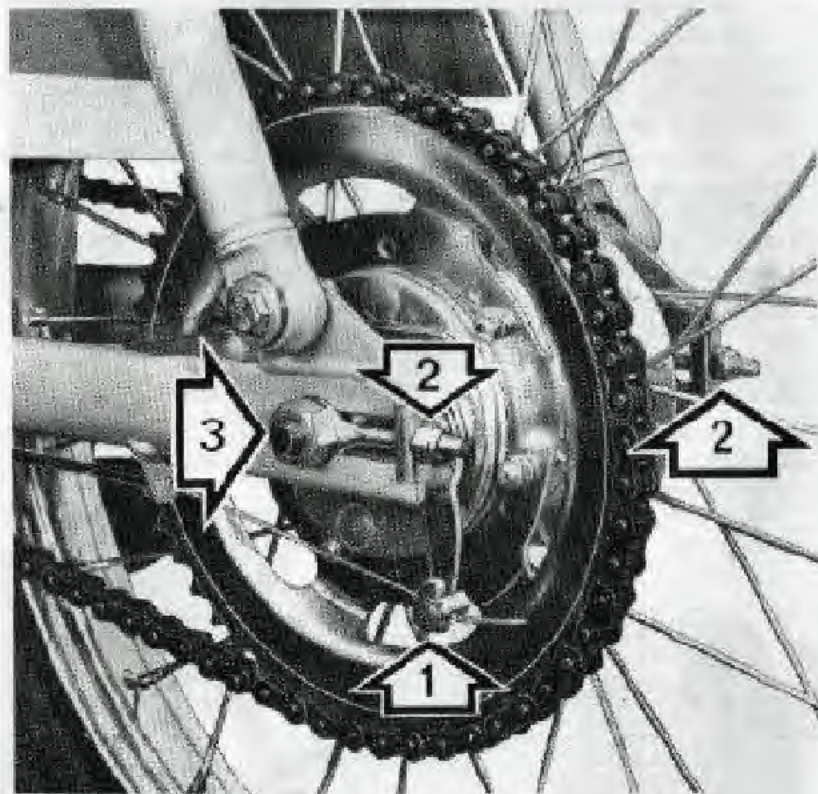

Fig. 17
- To disconnect the brake cable, push the brake arm (1, Fig. 17) forward and unhook the cable stop without unscrewing it.*
- Loosen wheel nuts (3) and disengage the chain tensioners (2) without changing their adjustment.*